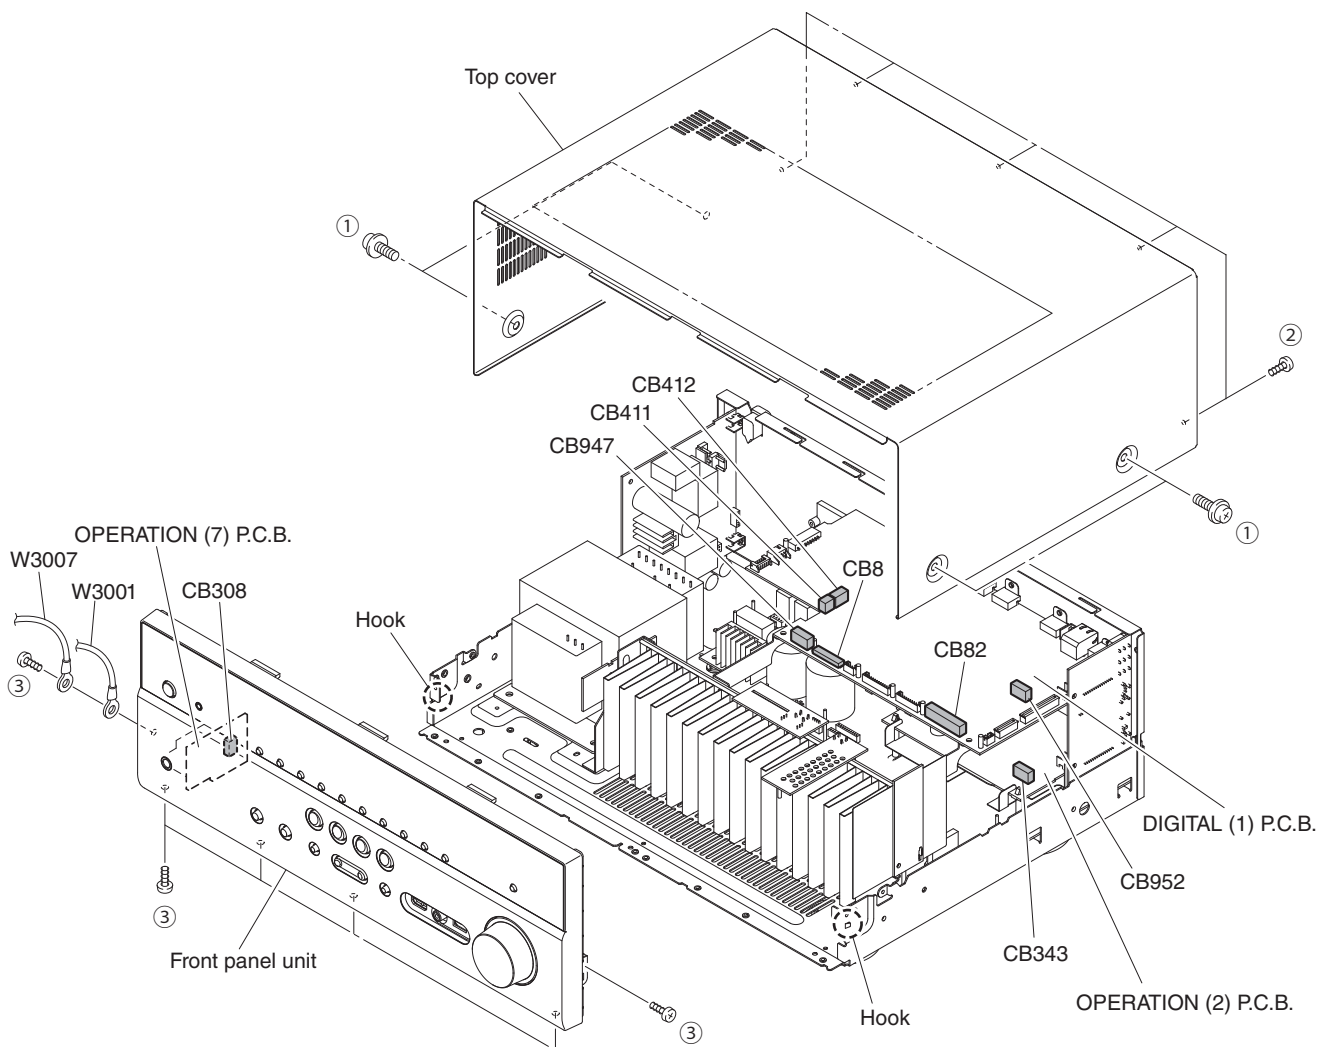

Fig. 1
- a. Remove 4 screws (①) and 5 screws (②). (Fig. 1)
- b. Lift the rear of the top cover to remove it. (Fig. 1)
- a. Remove 6 screws (③), and remove W3001 and W3007. (Fig. 1)
- b. Remove CB8, CB82, CB308, CB343, CB411, CB412, CB947 and CB952. (Fig. 1)
- c. Release 2 hooks, and remove the front panel unit. (Fig. 1)